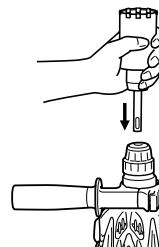

Fig. 19
- (2) Mount the core bit shank to the rotary hammer. (Fig. 19)
- (3) Insert the center pin into the guide plate until it stops.